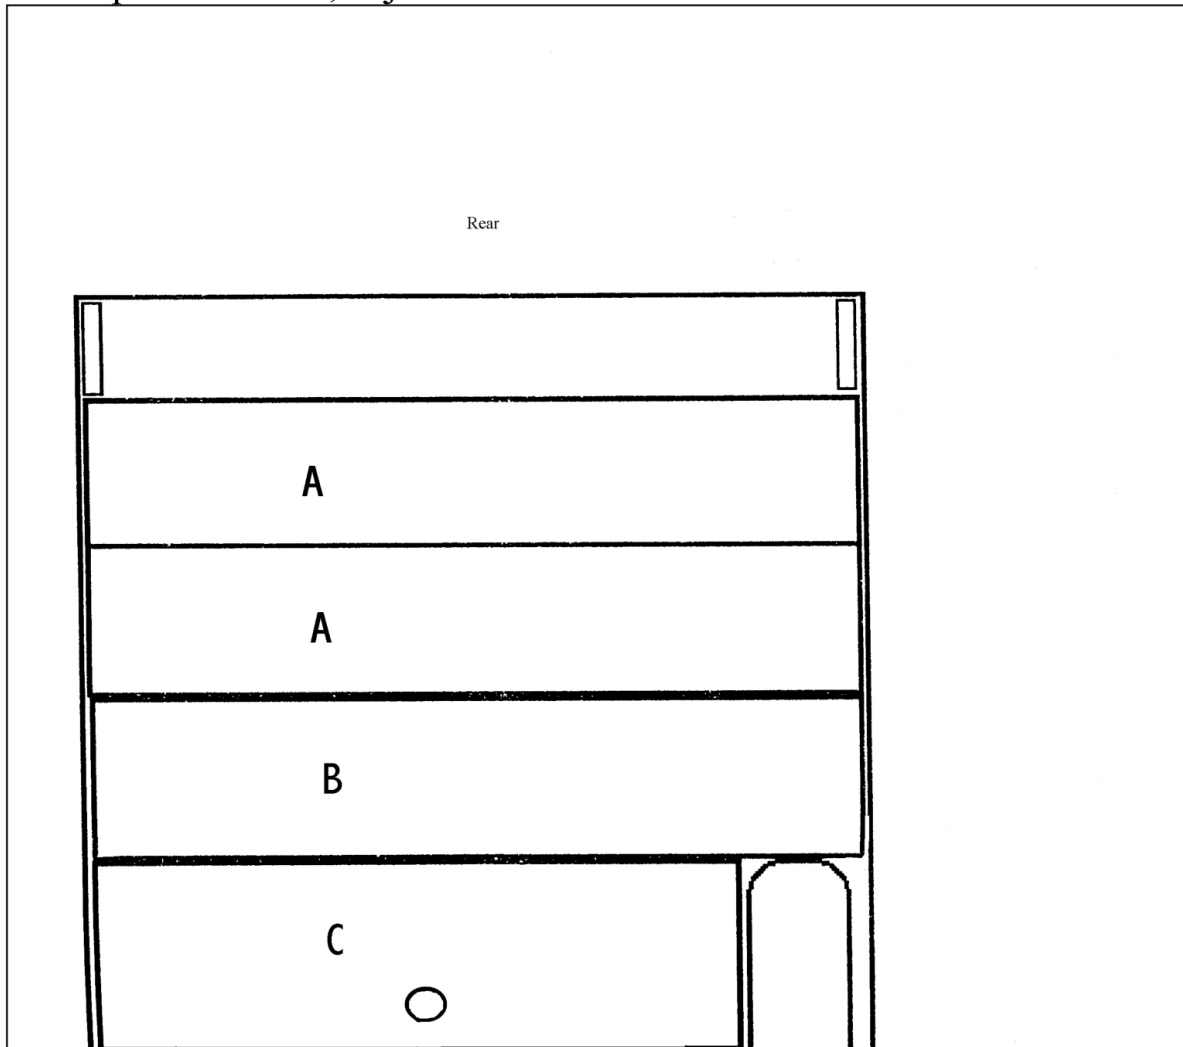

Figure 3: Lower board placement and alignment, top view (looking down into dispenser)
Step 9: Check the boards: The first board (the board with holes) should be roughly flush with the front of the machine (see Figures 3 and 4).